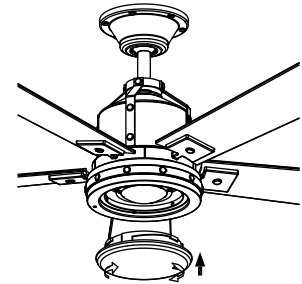

Fig. 21
Step 3. Secure the glass to light kit by twisting in a clockwise direction. Do not over-tighten. (Fig. 21)